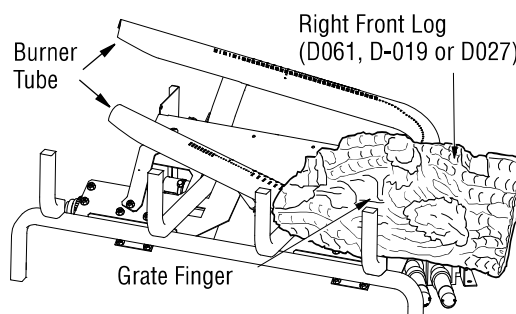

Figure 24 - Installing Right Front Log
1. Find the right front log (LMF24GTA/B or LMF24MOA/B models: D-061, LMF30GTA/B or LMF30MOA/B models: D-019, LMF36GTA/B or LMF36MOA/B models: D-027). See **Figures 24, 24A, 24B, and 24C** for reference.